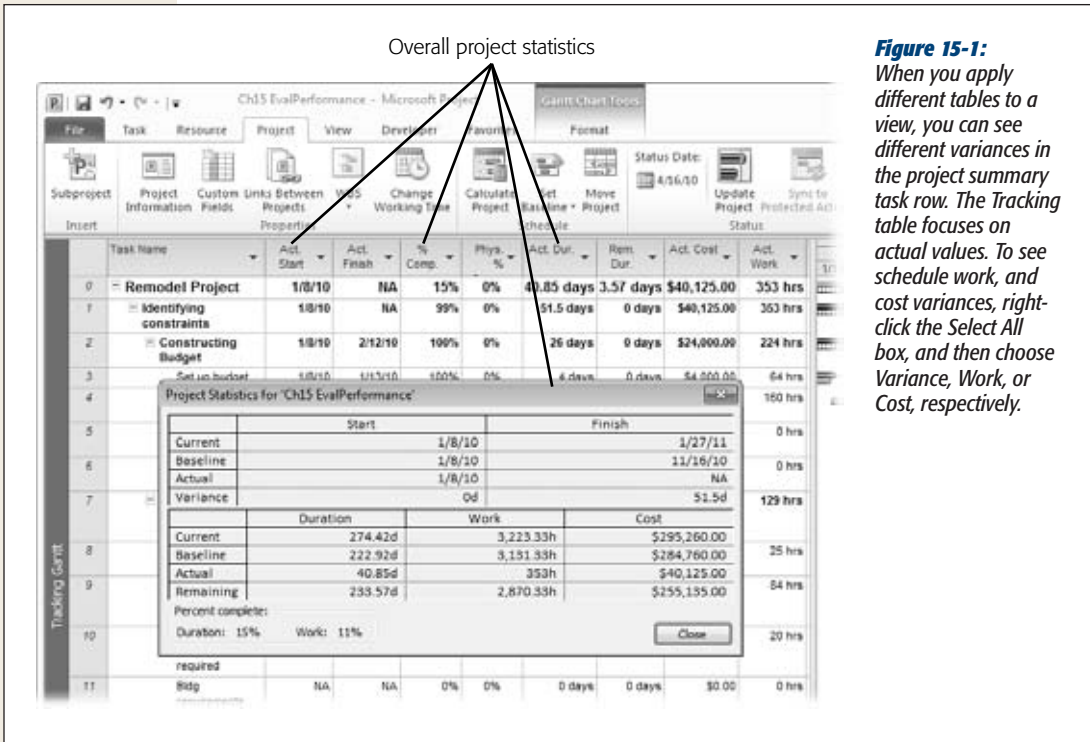

Figure 15-1:
- **Project summary task.** As shown in Figure 15-1, the project summary task is a simple way to see high-level status.
- **Project Statistics dialog box.** This dialog box shown in Figure 15-1 is a subset of the Project Summary report; it shows most of the same information except for duration, work, and cost variances. Choose Project→Properties→Project Information. In the Project Information dialog box, click Project Statistics.